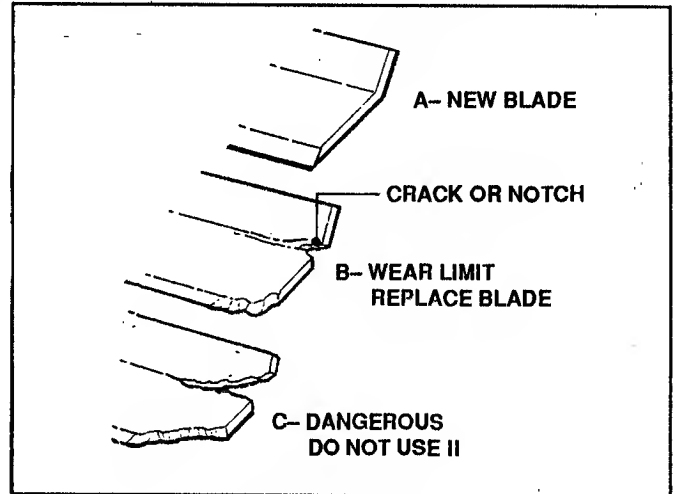

FIGURE 4.19
1. Inspect blade frequently for signs of excessive wear or damage. See Figure 4.19.
*Never use a cutting blade that shows signs of excessive wear or damage on the Rear Engine Rider. Refer to Figure 4.19.*
3. Inspect condition of blade. Refer to Figure 4.19.